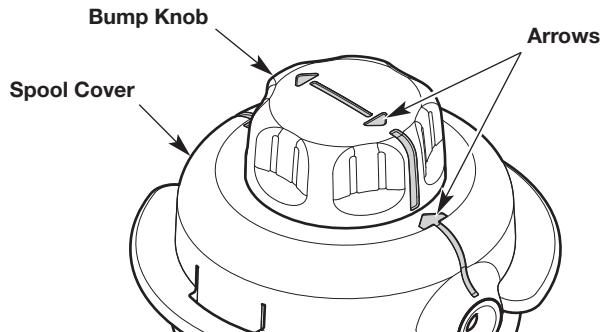

Fig. 18
3. Turn the bump knob to align the arrows on the bump knob with the arrows on the spool cover (Fig. 18).